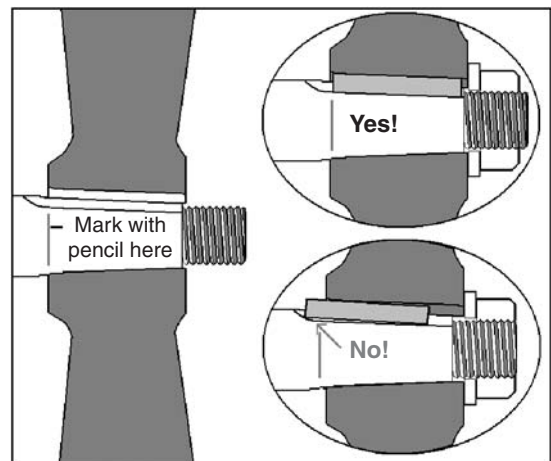

Fig. 17-9. Precautions for propeller installation.
1. Les Christensen of Kodiak Metals, Kodiak, Alaska, told us that propellers must be installed in such a way that the key is not binding between the keyway and the propeller (Fig. 17-9). With the key in a bind, the propeller cannot advance fully onto